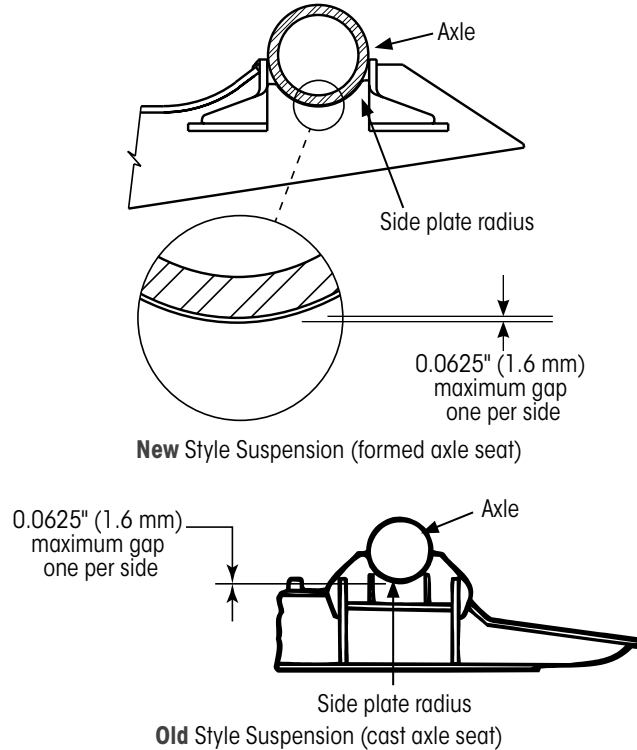
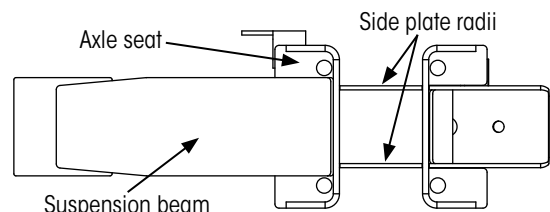
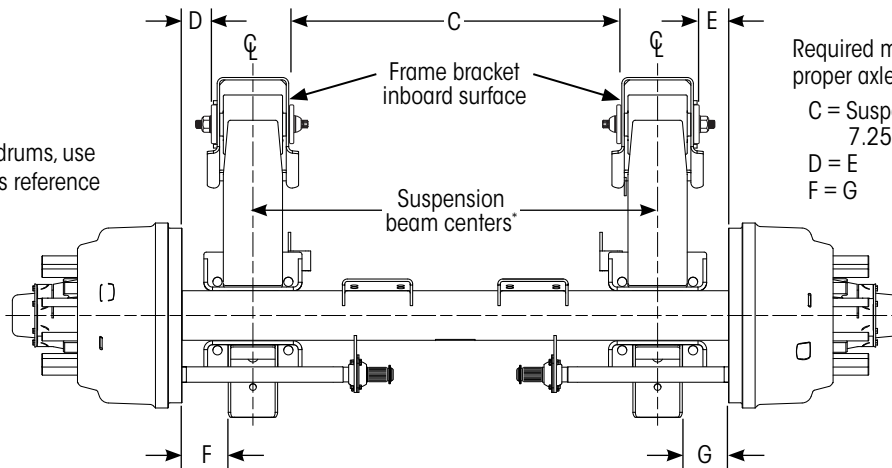
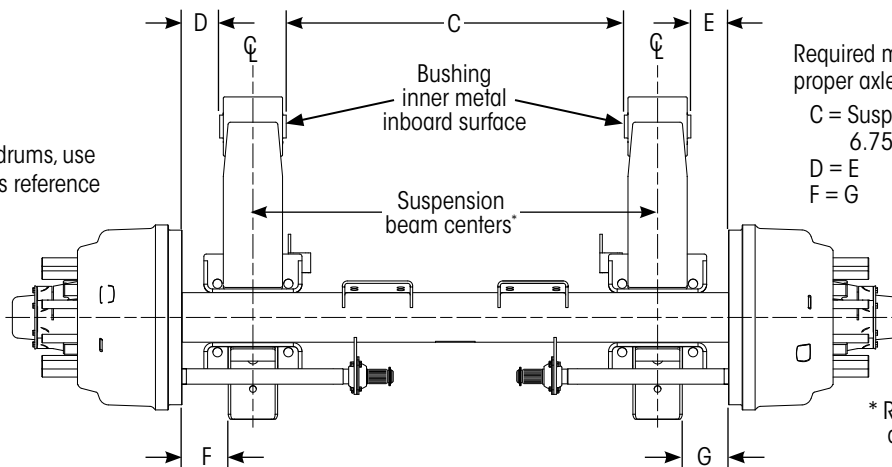

Figure 10: Axle seat specifications
Figure 11: HT sample beam (Beam with formed axle seat shown)
Figure 12: Centering suspension pivots with frame bracket/beam assembly
Figure 13: Centering suspension pivots without frame bracket/beam assembly
3. **Center** the axle by measuring left and right spaces between the positioned beams and hub assembly. **Position** the axle until both spaces are equal (Figure 12, Figure 13 on page 12). For more details specific to the suspension model, reference applicable installation drawings.
IMPORTANT: At least one side plate radius (Figure 10) per beam must be seated on the axle. Gaps between the non-seated side plate radius and the axle may be up to $\frac{1}{16}$ inch (1.6 mm) maximum.
2. **Reference** Figure 12 and the installation drawing provided to space apart at the approximate suspension beam center-to-center dimension.
IMPORTANT: At least one side plate radius (Figure 10 and Figure 11) per beam must be seated to the axle. Gaps between the non-seated side plate radius and the axle may be up to $\frac{1}{16}$ inch (1.6 mm) maximum.
1. Roughly **center** axle above suspension beams and **lower** into axle seats as shown in installation drawing; similar to Figure 10, above; Figure 2 on page 7; Figure 12 and Figure 13.
4. **Accurately center** axle and align axle/beam assembly by measuring left and right spaces between the positioned beams and brake or hub assembly. **Refer** to measurements listed in (Figure 12 or Figure 13).
- The axle is tightly seated to at least one side of the plate radius on each beam (Figure 10).
- Gaps between the non-seated side plate radius and the axle may be up to 1/16 inch (1.6 mm) maximum (Figure 10).